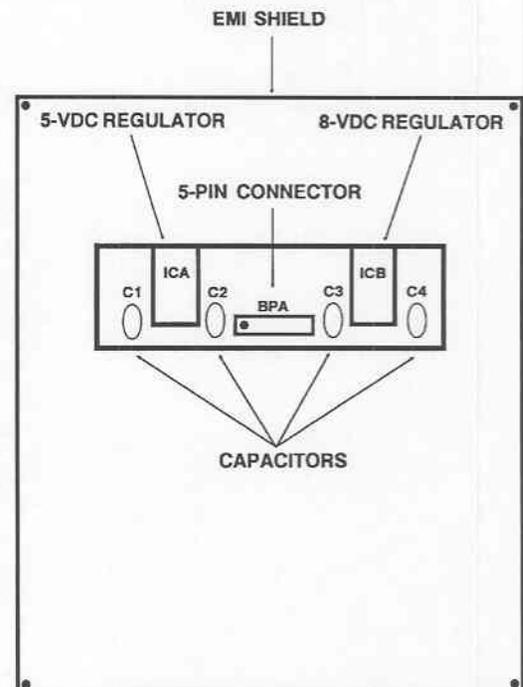

Figure 4-6. Linear regulators and EMI shield (model 750).
(2) Linear regulators/EMI shield (fig 4-6).